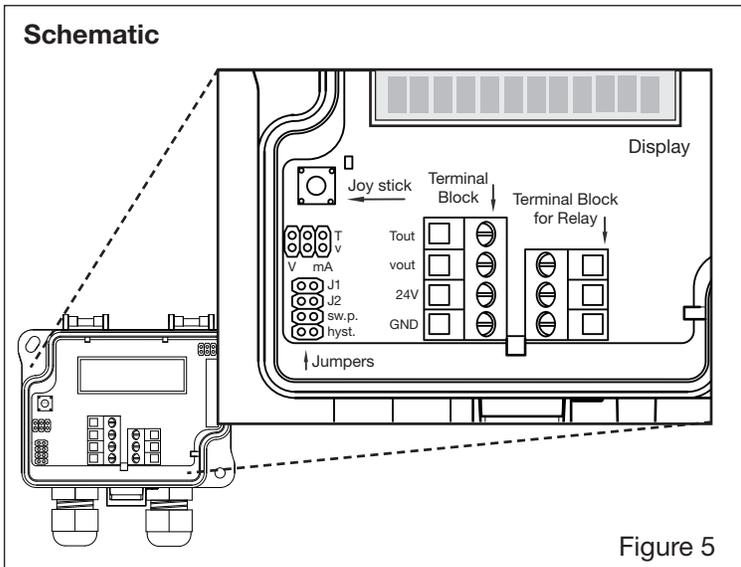

Figure 5
Entering configuration information into the STF Air Velocity and Temperature transducer is accomplished with the Joystick, see Figure 5, the Display, and Jumpers installed and removed from the set of three (3) or four (4) jumper pins, see Figure 5.
**Jumpers** Jumpers are used in two (2) different ways:
- 1) Install jumper to pins labeled sw.p. (Switching Point), see Figure 5.
- 1) Install jumper to pins labeled hyst. (hysteresis), see Figure 5.